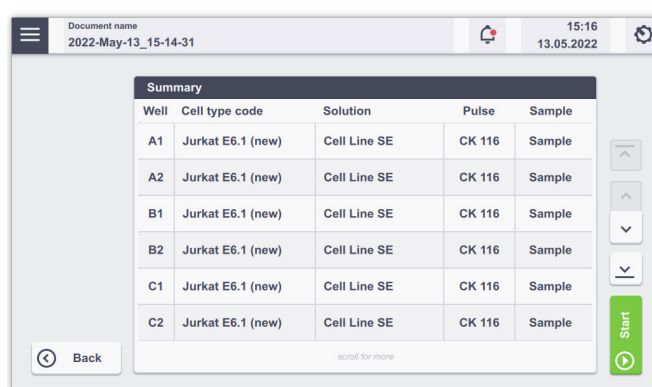

Figure 2.12: Summary screen after setup.
6. The summary screen appears (Figure 2.12) listing the settings for each well-defined and the drawer will open.